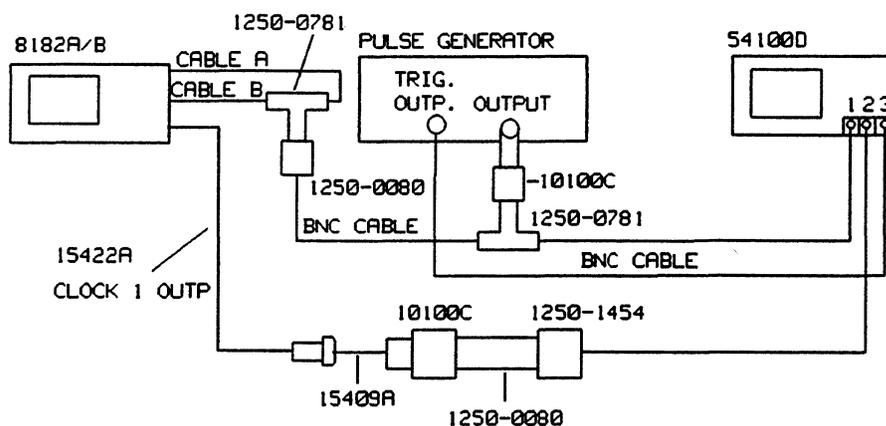

Figure 11-9. Test Setup for the External Input Test
8. Connect the equipment as shown in Figure 11-9 and press RUN. (BNC Cable A connected to External Clock Input.)